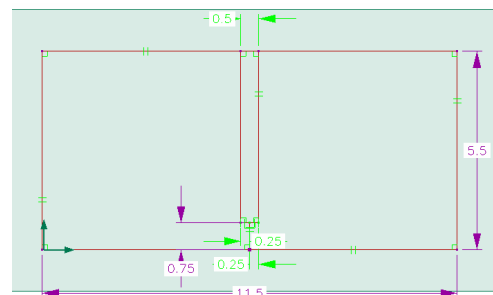

Figure 16. Drawing the center slot
29. Draw the center slot according to the dimensions in figure 16.